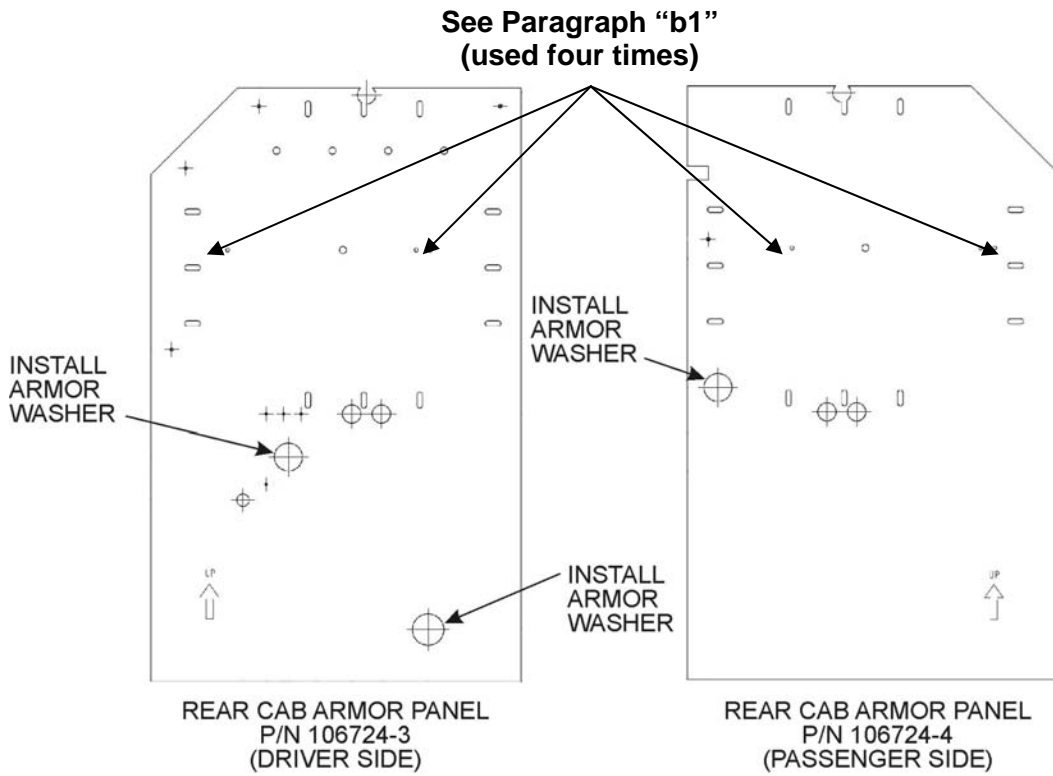

Figure 26a. Armored washer locations.
- b1. Prior to installation of the armor panels, insert four bolts (1/4 – 20 x 1.000), eight washers (1/4 ID), and four nuts (1/4 -20) through the four optional energy-absorbing seat mounting holes on each armor panel (see Figure 26a for locations). Ensure that the nut is on the outboard side.
- m. Drill a 1/4-in. Ø hole two places (see Figure 26a) (centered) through the 2.000 and 2.250 Ø holes in the armor panel into the cab.
- p. Install bolt (1/4 – 20 x 1.250), armored washer (P/N 111403-1), washer (1/4-in. ID), and self-locking nut (1/4 – 20), with the fender washer on the inside of the cab, in two places (see Figure 26a). If the sound-damping material is in the way, remove it from around the hole.
- v. Repeat Steps "a" through "u" for the passenger-side Rear Cab Armor Panel (P/N 106724-4), except only one armored washer installation is required (see Figure 26a and 28a) and only one 1/4-in. hole is required to be drilled.